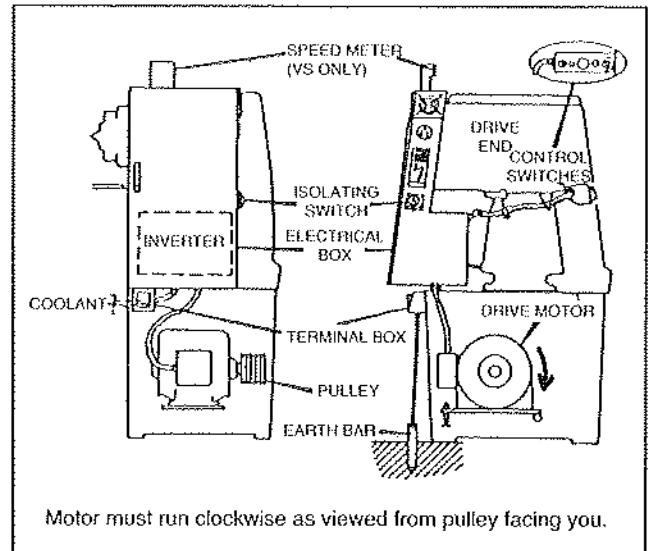

Fig. 3
**WARNING:** All electrical power connections must be provided by a local licensed electrician. Proper grounding and fused main disconnects are necessary. (Shown on Fig. 3, speed meter, Amperemeter, exhaust fan, work lamp socket, inverter, earth bar are optional equipment for VS model only).